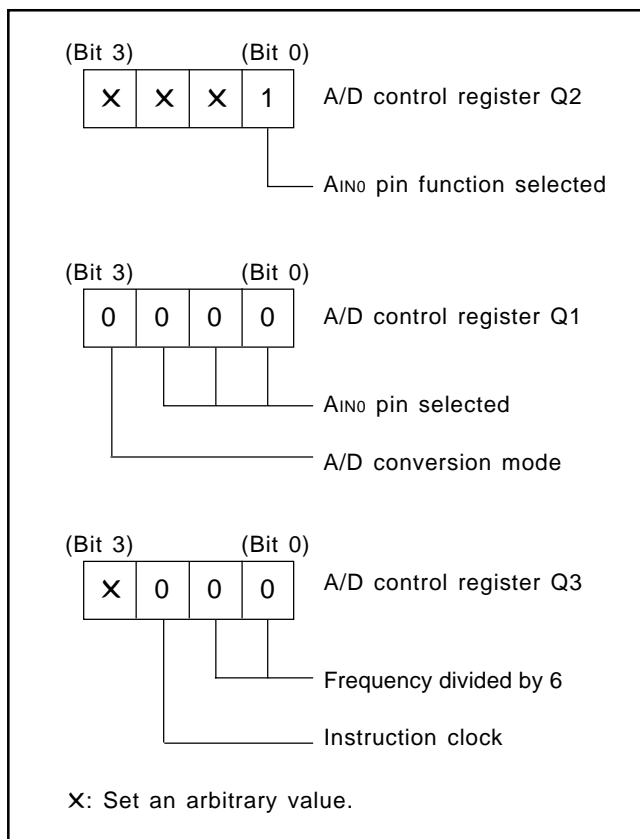

Fig. 37 Setting registers
- ① Select the AIN0 pin function with the bit 0 of the register Q2. Select the AIN0 pin function and A/D conversion mode with the register Q1. Also, the instruction clock divided by 6 is selected with the register Q3. (refer to Figure 37)
- ② Execute the ADST instruction and start A/D conversion.
- ③ Examine the state of ADF flag with the SNZAD instruction to determine the end of A/D conversion.
- ④ Transfer the low-order 2 bits of converted data to the high-order 2 bits of register A (TALA instruction).
- ⑤ Transfer the contents of register A to M(Z, X, Y) = (0, 0, 2).
- ⑥ Transfer the high-order 8 bits of converted data to registers A and B (TABAD instruction).
- ⑦ Transfer the contents of register A to M(Z, X, Y) = (0, 0, 1).
- ⑧ Transfer the contents of register B to register A, and then, store into M(Z, X, Y) = (0, 0, 0).